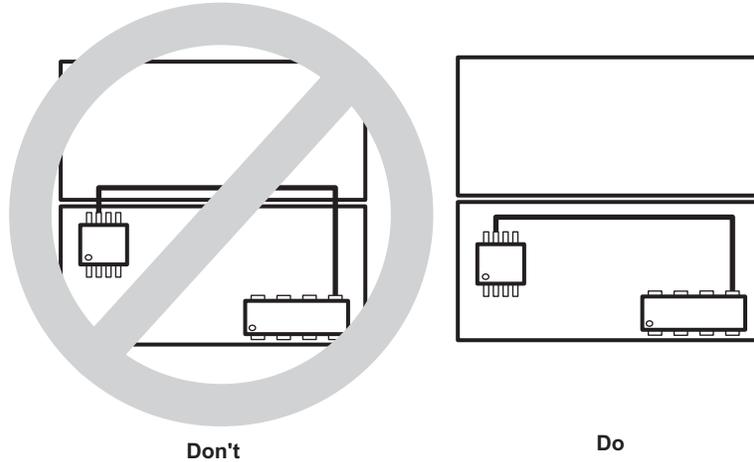

图 8-36. Do Not Cross Plane Boundaries
- Do not route traces so they cross from one plane to the other. This can cause a broken RF return path resulting in an EMI radiating loop as shown in 图 8-36. This is important for higher frequency or repetitive signals. Therefore, on a multi-layer board, it is best to run all clock signals on the signal plane above a solid ground plane.